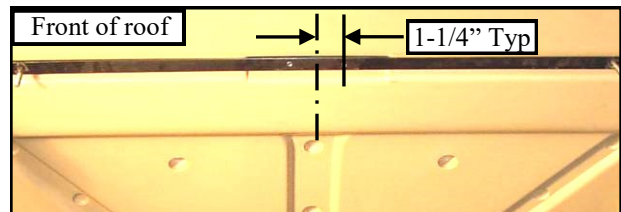

Figure 2.2 (view from front of vehicle)
2.2 Per fig. 2.2, mark the center of the vehicle from side to side on the bottom surface of the front roof support tube. Then mark hole locations 1-1/4" to either side of center mark, centered on the tube front to back.